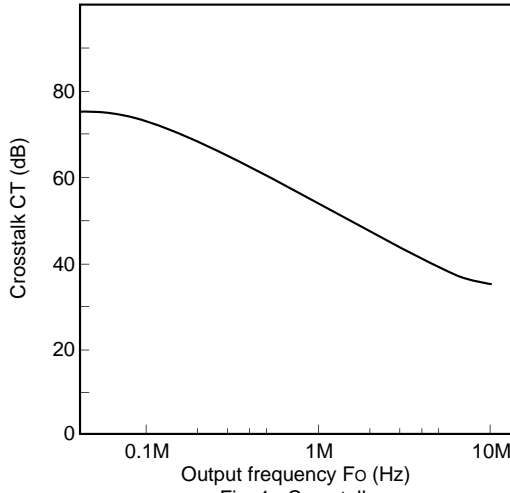

Fig. 1. Crosstalk
- Fig. 1, 2 Refer to the measurement circuit.